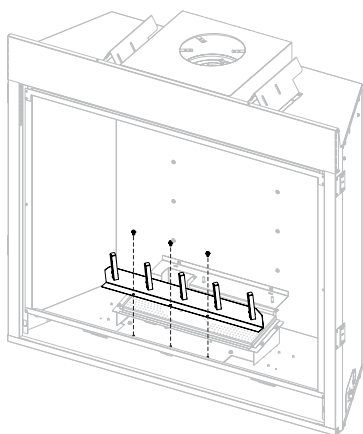

Figure 7
4. Remove grate by disassembling and removing the three screws on top panel. **See Figure 7.**
15. Reinstall the grate three screws removed in step 4. **See Figure 7.**